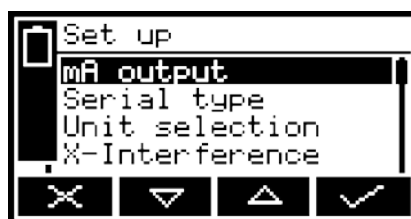

Figure 17 - The Set up screen
1. With the Settings screen displayed, use the  and  soft keys to highlight the "Set up" menu option, then press the  soft key. The Set up screen will then be displayed, as shown in Figure 17.
1. Press the  soft key to display the Menu screen, use the  and  soft keys to highlight the "Set up" menu option, then press the  soft key. The Set up screen will then be displayed (see Figure 17).